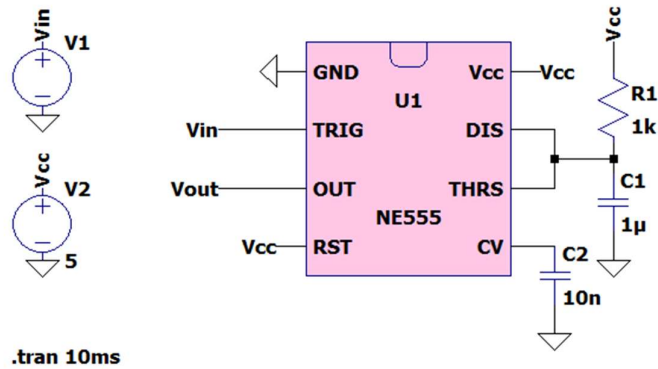

Figure 8
2. Set up the circuit as shown in Figure 8.